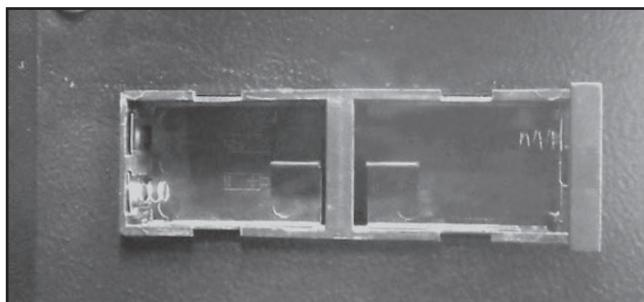

Figure 3. AA battery installation.
2. Insert (4) AA batteries (see Figure 3), then replace battery cover.